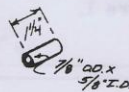
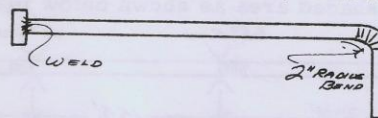

FIGURE 5
FIGURE 6
5. Cut 2 pieces of 7/8" tubing, with a 5/8" inside diameter, as shown in Figure 5. Weld to the 2 pieces of tubing you have just bent as shown in Figure 6.